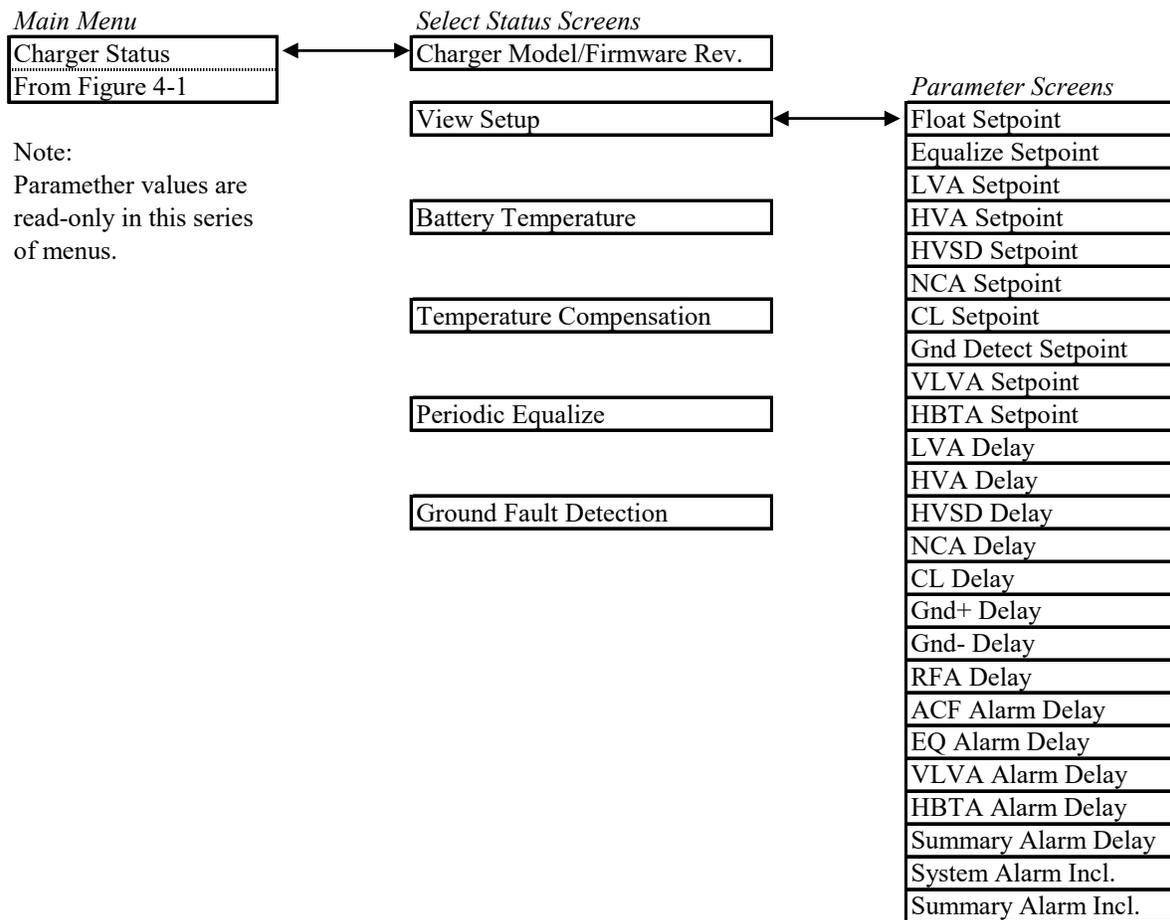

FIGURE 4-2 CHARGER STATUS MENU
Press SEL at the **Charger Status** screen to view charger operating parameters; see Figure 4-2. Parameter values cannot be changed in this series of screens.
1. At the **Home** screen, press UP or DN until CHARGER STATUS appears. See Figure 4-2.